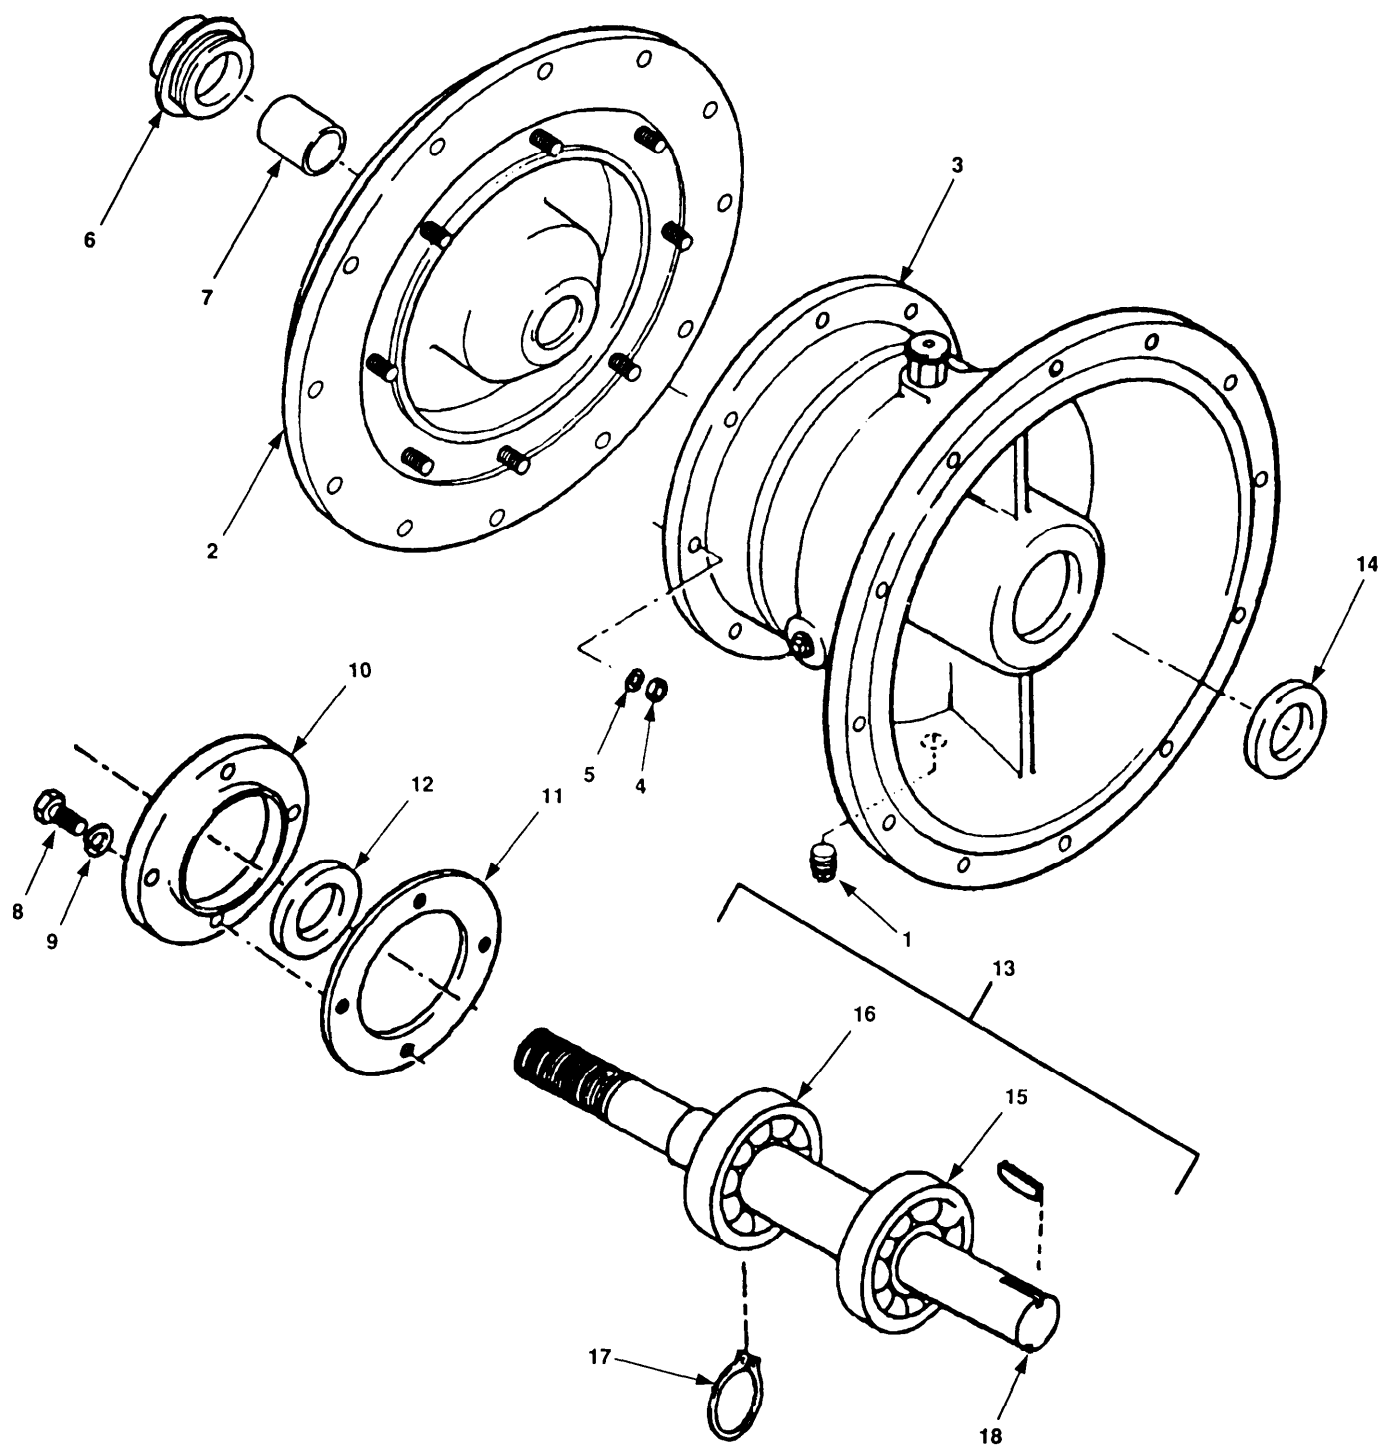

Figure 5-14. Sleeve and Rotating Assembly Maintenance.
- a. Remove oil drain plug (figure 5-14, 1) and drain oil into suitable container.
- (1) Scribe a mark across seal plate (2) and intermediate bracket (3).
- (2) Remove eight nuts (4) and lockwashers (5).
- (3) Remove seal plate (2) with rotating seal assembly (6) and sleeve (7).
- (4) Remove rotating seal assembly (6) and sleeve (7) from seal plate (2).
- (5) Apply finger pressure to push sleeve (7) out of rotating sleeve assembly (6) .